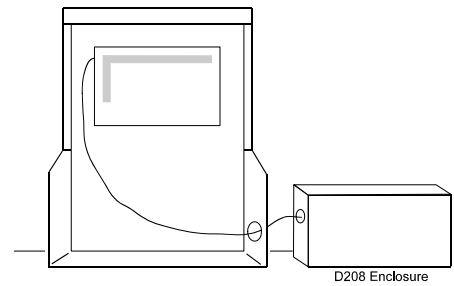

Figure 1: Mounting the D208 in the D208 Enclosure
2. Mount the D208 as shown in *Figure 1*. If using the D208 enclosure, loosen the three screws attaching the board to the enclosure no more than 1/4 turn to allow board removal at a later time.